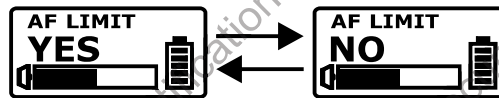

Fig. 12
- (C) AF LIMIT: Audio Input Limit Setting. Fig. 12
- (1) Select YES or NO.
- (2) YES: the maximum output of the receiver is limited to 1V.